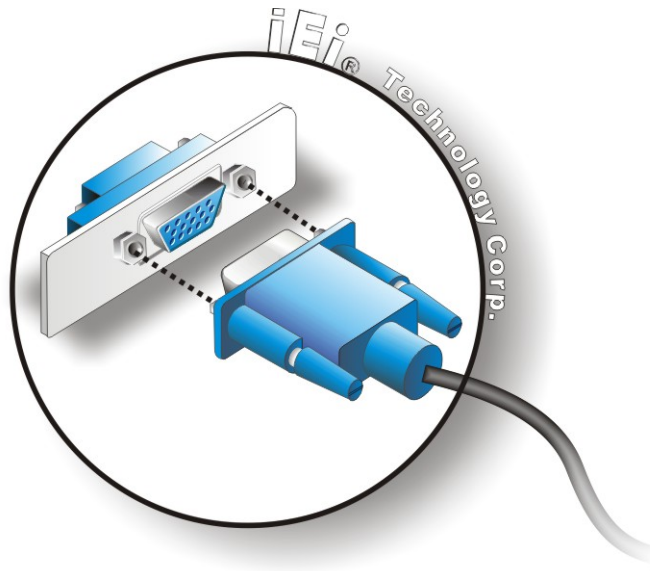

Figure 4-27: VGA Connector
- Step 3:** **Insert the VGA connector.** Once the connectors are properly aligned with the insert the male connector from the VGA screen into the female connector on the NANO-945GSE. See **Figure 4-27**.